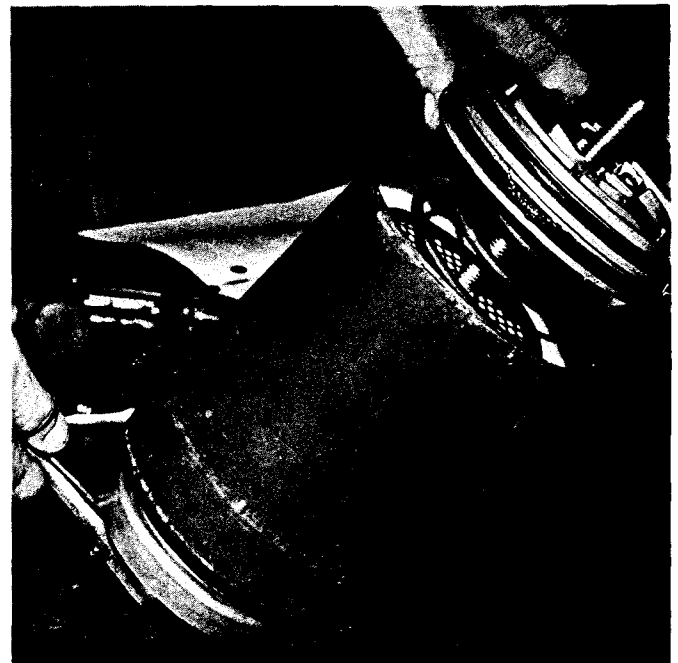

**Figure 14**
9. Using the lock nut draw the assembly together to approximately half of the spring's free height. While slowly turning the cartridge, tap the side of the shell with a plastic mallet (See Figure 14). This allows the desiccant material to settle properly into place. Continue to tighten the nut, making sure all items are properly aligned. Tighten nut firmly using an 11/16" socket or box wrench. (See Figures 15-1, 15-2)